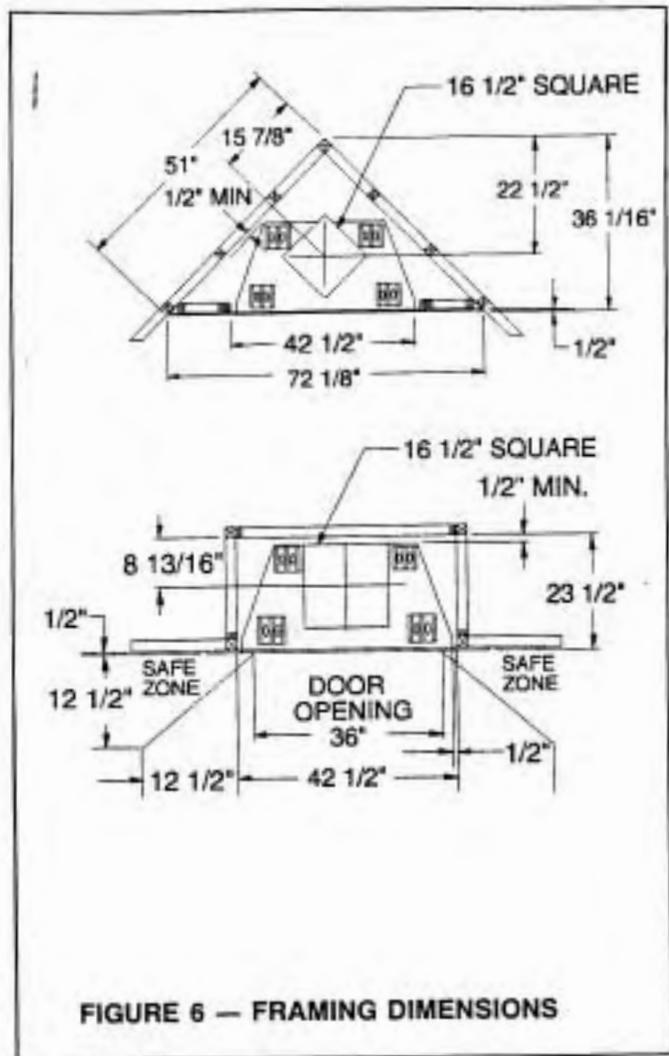

FIGURE 6 — FRAMING DIMENSIONS
STEP 3: On the ceiling directly above the center of the double-wall pipe, lay out a 16½-inch square hole (use plumb bob) and cut out for chimney exit (Figure 6).